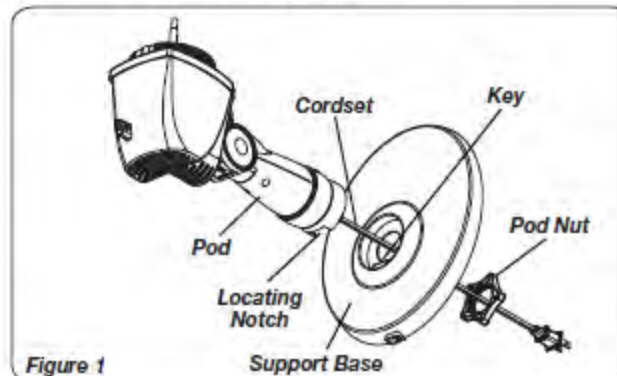

Figure 1
- Attach base - unscrew *Pod Nut* counter clockwise, insert cordset through hole of base. Make certain to align the *Key* on the *Support Base* with the *Locating Notch* on the *Pod*. Insert *Pod* into hole in base. Thread *Cordset* through *Pod Nut* and screw *Pod Nut* clockwise until hand tight. (Figure 1)